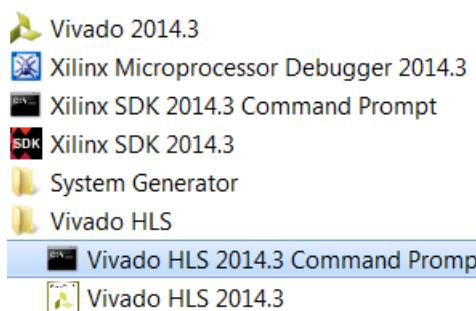

Figure 8-1: Vivado HLS Command Prompt
- On Windows use **Start > All Programs > Xilinx Design Tools > Vivado 2014.3 > Vivado HLS > Vivado HLS 2014.3 Command Prompt** (Figure 8-1).